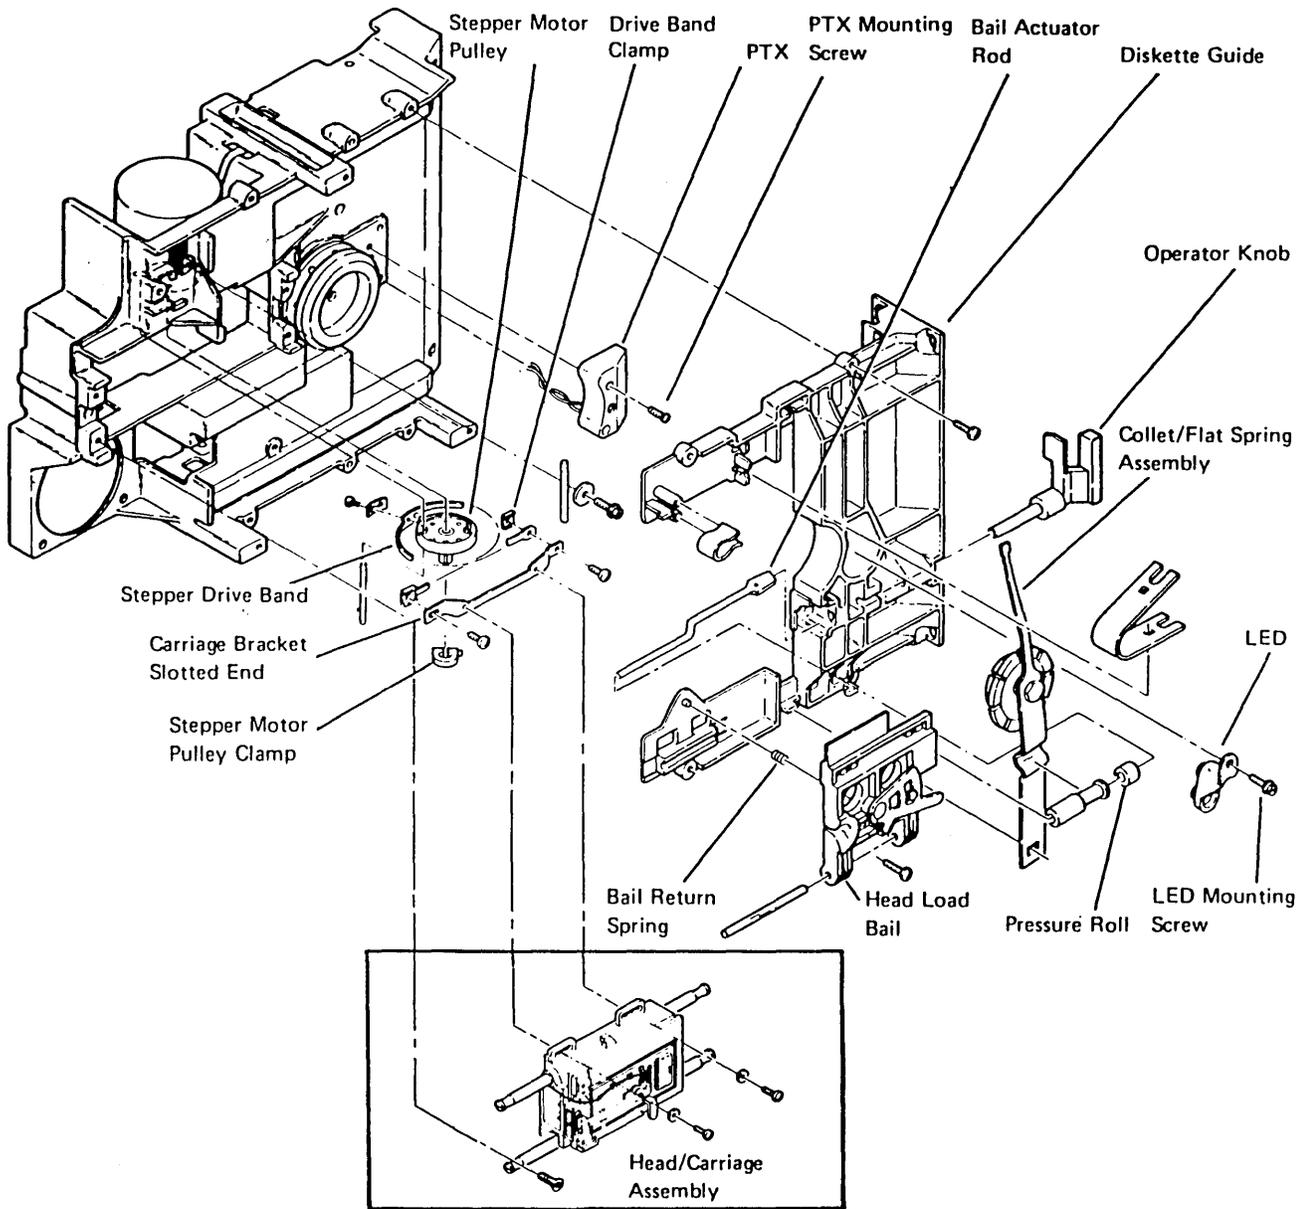

Figure F-9 (Part 1 of 5). Diskette Drive Parts
F.1.4 Diskette Drive Parts (Figure F-9)